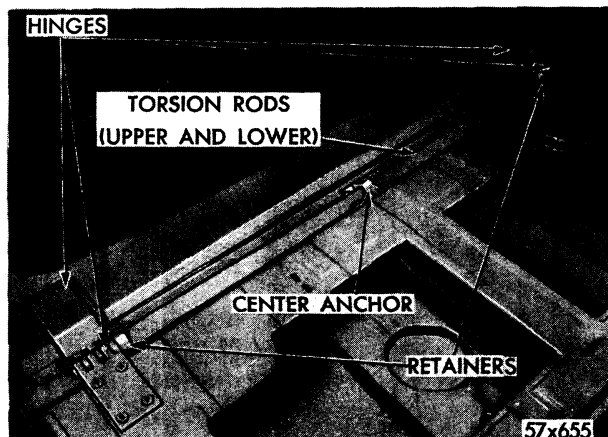

Fig. 153—Tail Gate Torsion Bars Installed
b. Removal of Torsion Bars (Fig. 153)
Install two torsion bars. (Fig. 153). Install